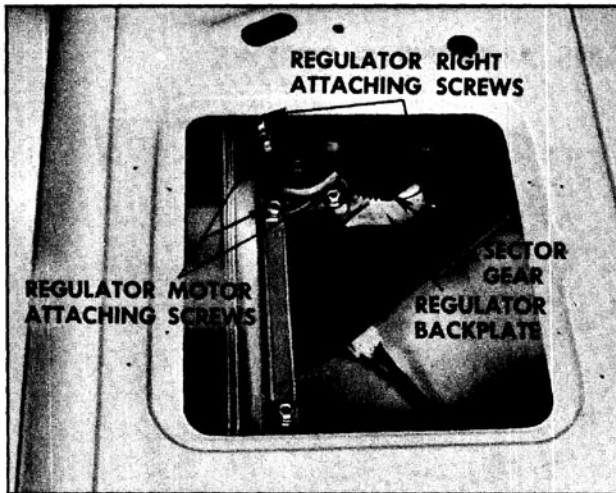

Fig. 16-477 Tailgate Window Motor
- Loosen regulator right attaching screws (Fig. 16-477). Remove three regulator motor attaching screws (Fig. 16-477) and remove motor assembly from regulator and tailgate.
- Insert key in lock cylinder and turn key to lock position. Depress locking pawl, (Fig. 16-477), turn key (lock cylinder) approximately 1/4 turn counterclockwise and remove lock cylinder assembly, locking pawl and locking pawl spring from handle driver.